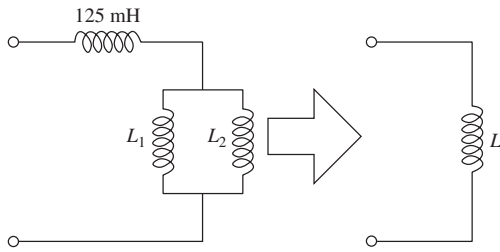

Figure P2.14 Series-parallel combination of three inductors.
- 2-14.** The equivalent inductance L of three inductors connected in series-parallel as shown in Fig. P2.14 is given by